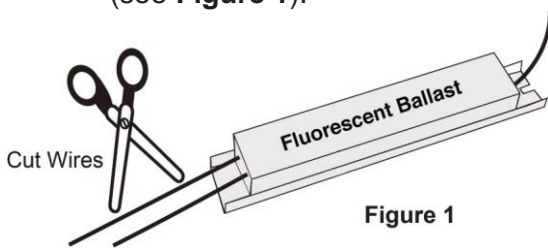

Figure 1
Step 6: Cut the line and neutral wires at the ballast, as well as all remaining wires at the ballast (see **Figure 1**).